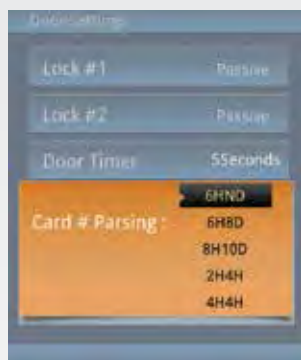

Fig 5.07-1
- From the Door Settings menu, use the **▲** or **▼** keys to highlight the Card # Parsing menu option. Touch **OK** to enter the Card # Parsing menu shown in **Fig 5.07-1**.